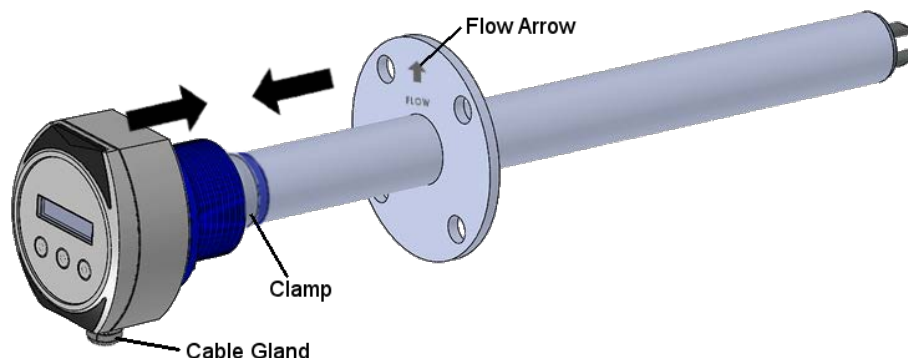

Figure 5-8 - Assemble Head Housing to Probe Body
- d. Ensuring the clamp is fitted over the head housing shoulder and with the flow direction arrow on the flange pointing upwards, carefully slide the probe body into the head housing; refer to Figure 5-8.